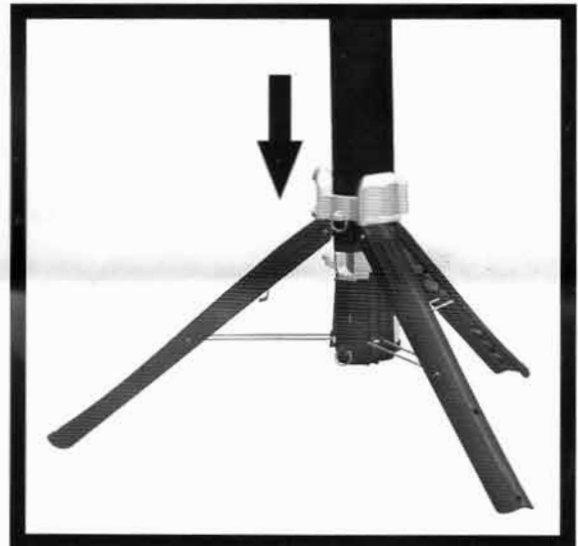

Fig. 2
2. Once all three legs have released, move the deployment collar downwards and the legs will move away from the body to form a stable tripod base. Slide the deployment collar into the recess on the track to hold it in this position (see Fig. 2).